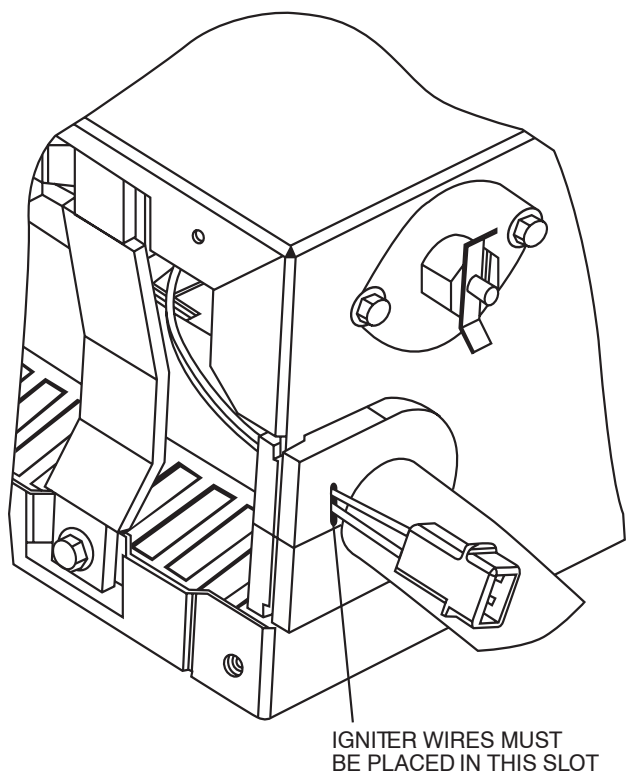

Fig. 7 - Igniter Wire Placement
15. Reinsert the igniter wires in the slot in the manifold grommet, dressing the wires to ensure there is no tension on the igniter itself. (See Fig. 7.)